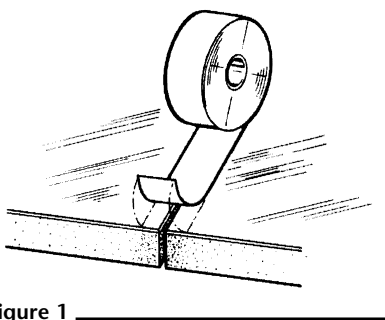

Figure 1
2. Center commercial aluminum foil tape over board joints and apply tape (Figure 1).
2. Offset finish board and fasten through first layer (THERMAX Sheathing), penetrating 1" into framing members (i.e., girts or purlins) with corrosion-resistant fastener and poly washer, such as QUIK Cap, Buildex Multi-Diameter Insulation Tekes or equivalent (with minimum 1" poly washer). (See Table 1 for fastener lengths.) Each board should span at least three framing members. The maximum span is 5'. Fasteners should be spaced 12" on center in three rows of five fasteners per 48" board width (Figure 1).
purlins) with corrosion-resistant fastener and poly washer, such as QUIK Cap, Buildex Multi-Diameter Insulation Tekes or equivalent (with minimum 1" poly washer). (See Table 1 for fastener lengths.) Each board should span at least three framing members. The maximum span is 5'. Fasteners should be spaced 12" on center in three rows of five fasteners per 48" board width (Figure 1).